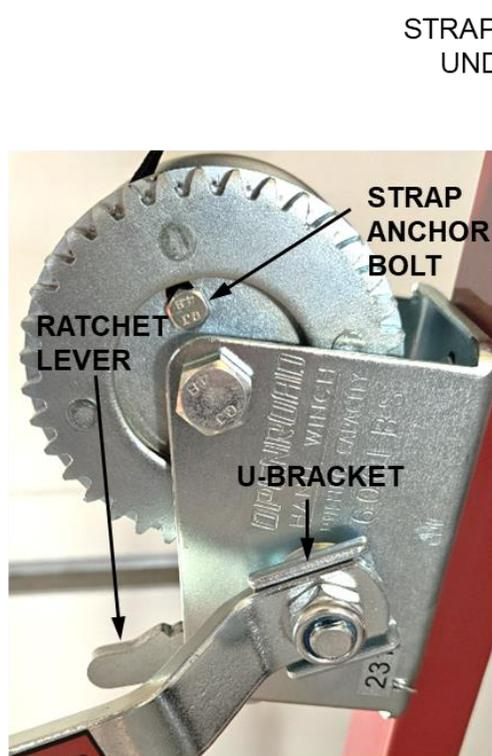

Figure 6
1. Install Winch Handle on Winch with U-Bracket (Figure 6) between the Winch shaft and Handle.
### Strap Installation and Routing (Figure 6 & 7)
1. Remove Strap installed on the Winch. This can be accomplished by pulling out the entire Strap and removing the anchor bolt (Figure 6).
3. Set the Ratcheting Lever (Figure 6) in the upper position on the Winch for raising the Trolley.